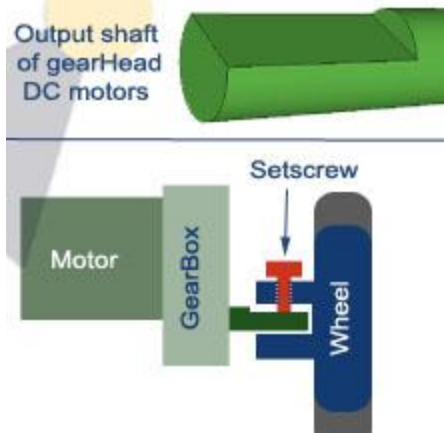

figure 3.B
**Direct transmission from a gear-head DC motor** is the most common method used by robotics, specially for the category of robot we are talking about. That's because the output-shaft from the gearbox of a gearhead motor are designed withstand higher stresses than the output shaft of the motor itself and has a very suitable output characteristics (low RPM and high torque). That can be noticed from the shape of the output shaft of a gear-head DC motor in the **figures 3.B** and **3.C**, which is not fully circular to be able to firmly secure it to a shaft coupling or to a wheel in our case.